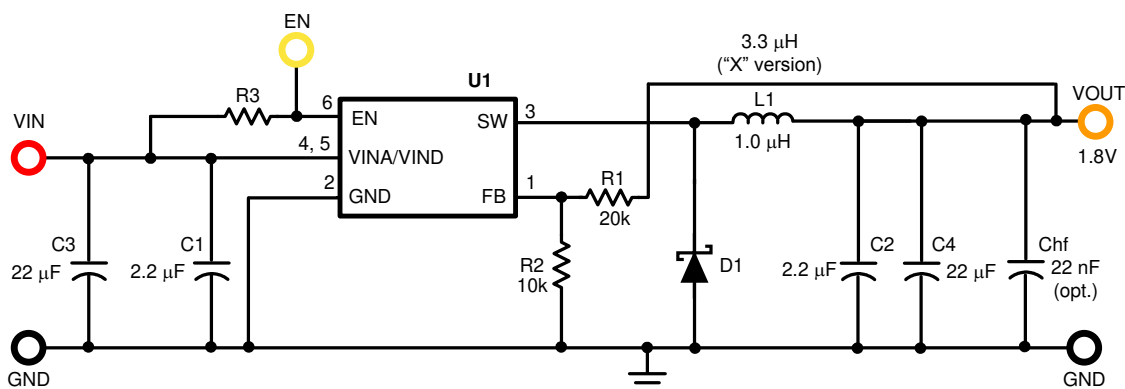

Figure 30. Typical Application Schematic
The LMR10530 is a constant frequency PWM buck regulator IC that delivers a 3-A load current. The regulator is available in preset switching frequencies of 1.5 MHz or 3 MHz. This high frequency allows the LMR10530 to operate with small surface mount capacitors and inductors, resulting in a DC/DC converter that requires a minimum amount of board space. The LMR10530 is internally compensated, therefore it is simple to use and requires few external components. The LMR10530 uses peak current-mode control to regulate the output voltage. The following description of operation of the LMR10530 will refer to the Figure 30, to the waveforms in Figure 20 and simplified block diagram in Functional Block Diagram. The LMR10530 supplies a regulated output voltage by switching the internal PMOS power switch at a constant frequency and variable duty cycle. A switching cycle begins at the falling edge of the reset pulse generated by the internal oscillator. When this pulse goes low, the output control logic turns on the internal PMOS power switch. During this on-time, the SW pin voltage (V_{SW}) swings up to approximately V_{IN} , and the inductor current (I_L) increases with a linear slope. I_L is measured by the current sense amplifier, which generates an output proportional to the switch current. The sense signal is summed with the regulator's corrective ramp and compared to the error amplifier's output, which is proportional to the difference between the feedback voltage and V_{REF} . When the PWM comparator output goes high, the internal power switch turns off until the next switching cycle begins. During the switch off-time, the inductor current discharges through the catch diode D1, which forces the SW pin to swing below ground by the forward voltage (V_D) of the catch diode. The regulator loop adjusts the duty cycle (D) to maintain a constant output voltage.